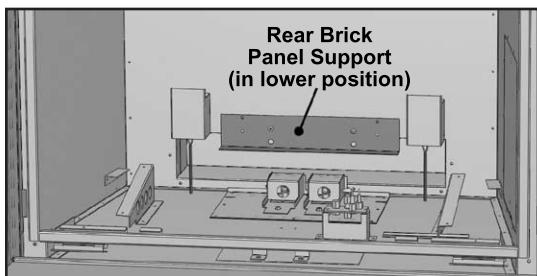

Figure 61: Rear Brick Panel Support.
- Prior to installing the firebox liners, you will need to ensure the Rear Brick Panel Support is in the correct position. The support is located at the back of the firebox (see Figure 61) and can be installed in two (2) positions. The upper position (using the lower screw holes) is for the October Panels. The lower position (using the upper screw holes) is for the Sandstone, Ledgestone, and Porcelain Panels. Remove the Support, if necessary, and move it to the appropriate placement.
2. Ensure the Rear Brick Panel Support is in the lower position. The support is located at the back of the firebox (see Figure 61). Remove the Support, if necessary, and move it to the appropriate placement.